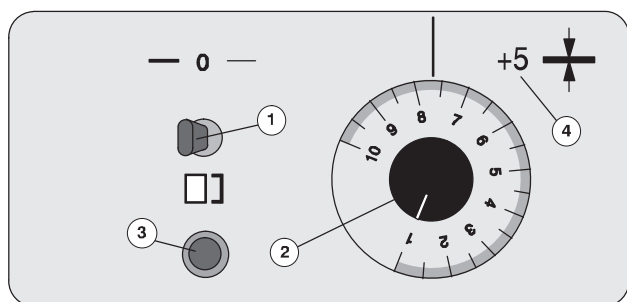

Fig. 22 Adjusting the double sheet detector
3. Set the toggle switch of the double sheet detector (Fig. 22/1) for thick or thin paper.
4. Turn control knob (Fig. 22/2) counterclockwise until the lamp (Fig. 22/3) lights up.
5. Turn the control knob (Fig. 22/2) clockwise until the lamp goes out.
6. Now continue turning 5 scale lines corresponding to Fig. 22/4; e.g. lamp goes out at pos. "7,7"; turn control knob to pos. "8,2".